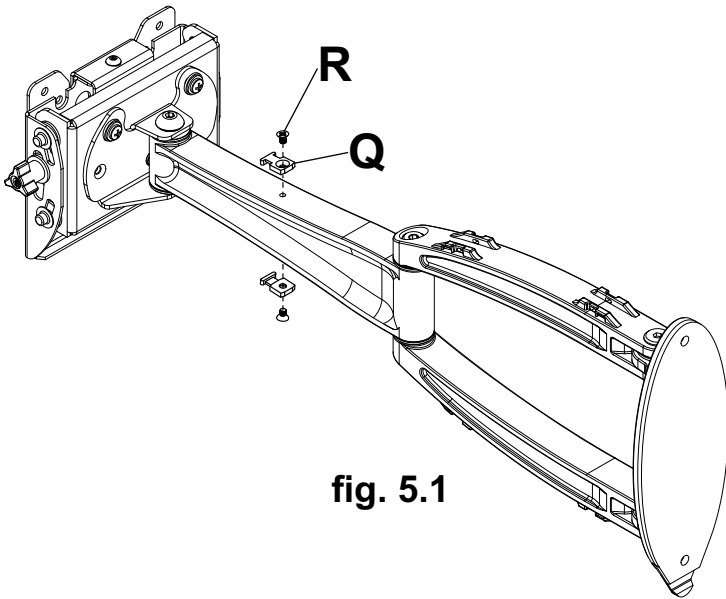

fig. 5.1
- 5-1** Attach cable tie anchor (Q) to top or bottom of wall arm (A) using 8/32 x 1/4" phillips screw (R) as shown in figure 5.1.